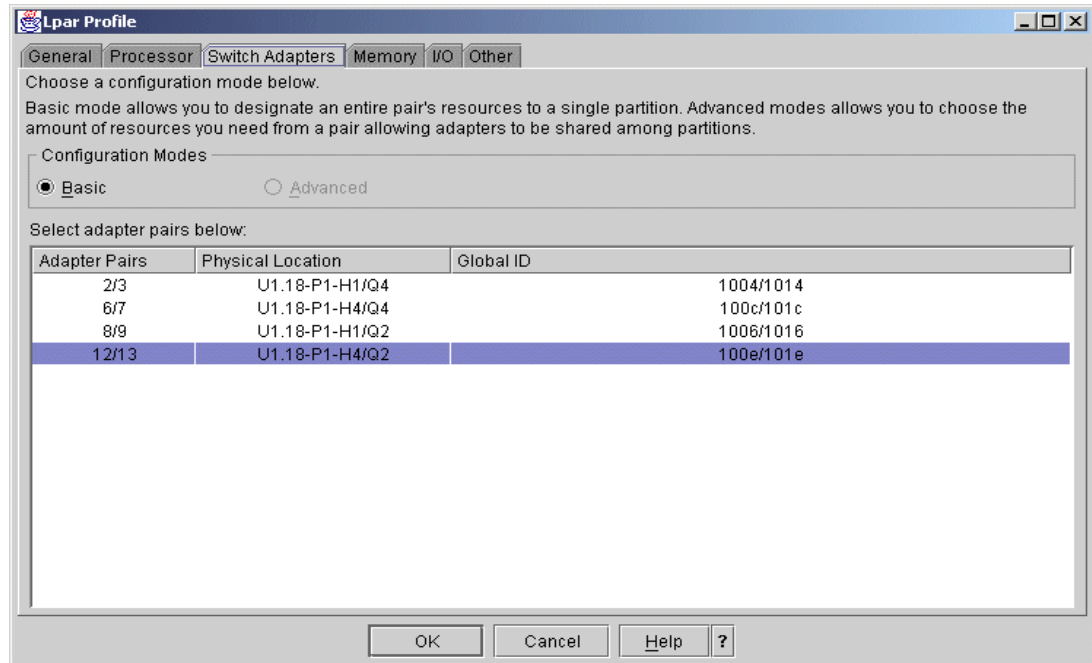

Figure 4-9 Adding the SNI interfaces to an existing LPAR
3. Click the **Switch Adapters** tab and select the appropriate SNI interfaces. See Figure 4-9 on page 164.